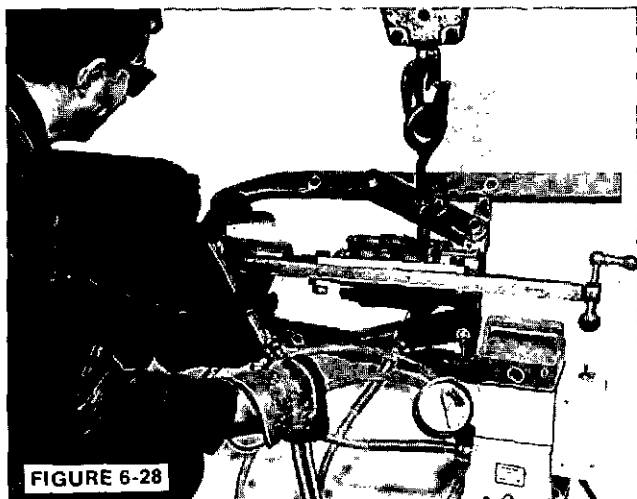

FIGURE 6-28
2. If the hub is to be replaced, remove the fan (See Item B) and install a suitable puller to the hub. Remove the setscrew (if used) in the hub over the key. Using a torch, rapidly heat the hub at the outer diameter while tightening the puller. (This must be done rapidly before the heat can expand the shaft.) Remove the hub. (Figure 6-28.)